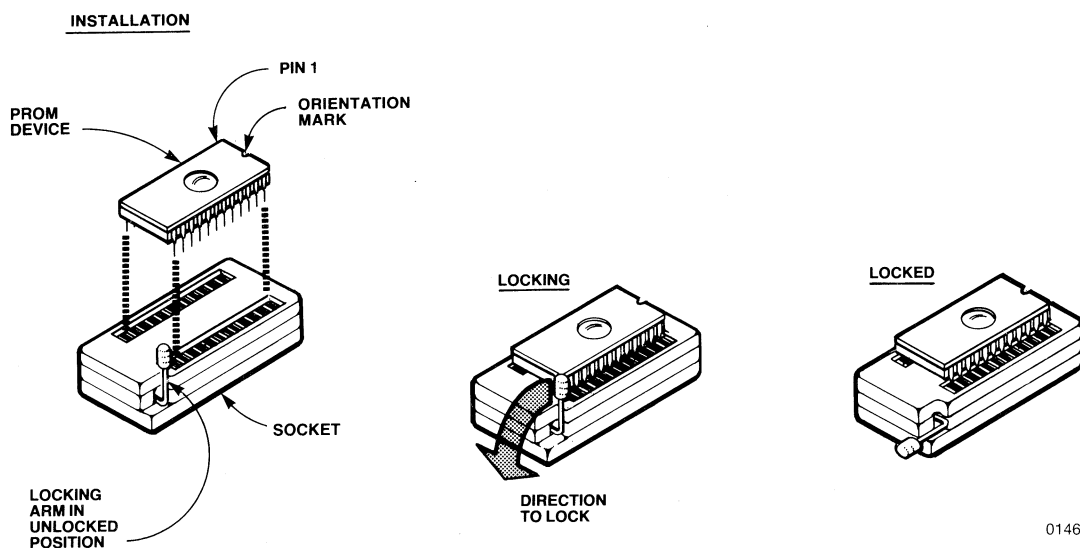

Figure 2-4 PROM Device Installation
4. Raise the socket locking arm on the selected socket (see Figure 2-4).